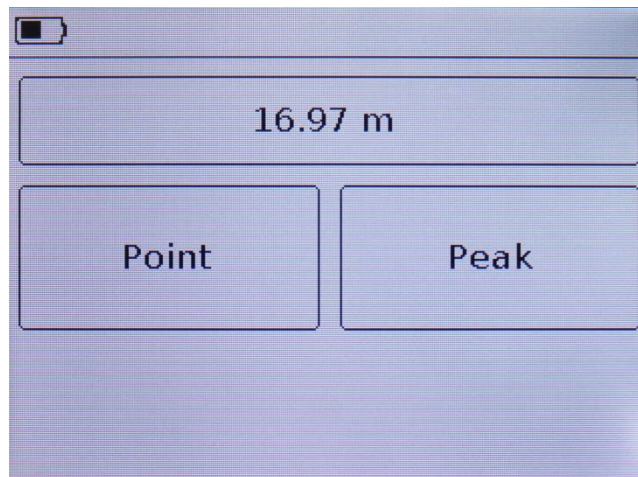

Figure 9.13 – Express menu for setting DTF plot distance parameters
9.4.8. To quickly change the displayed parameters or the frequency of one of the four markers of the DTF plot, click on the area of the selected marker above the plot and go to the express menu (Figures 9.13 and 9.14). Press the button (12) "MENU" to return to the viewing plot.